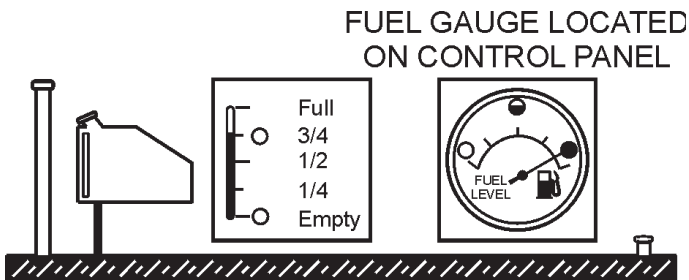

Figure 38. Full Trailer Tank
3. **NEVER overfill trailer fuel tank** – It is important to read the trailer fuel gauge when filling trailer fuel tank. **DO NOT** wait for fuel to rise in filler neck (See Figure 38).